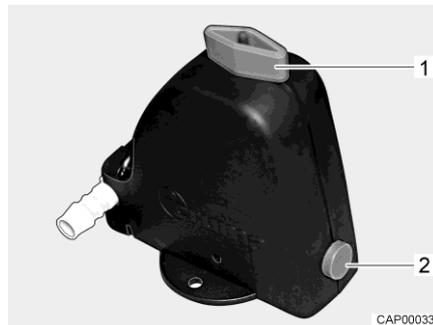
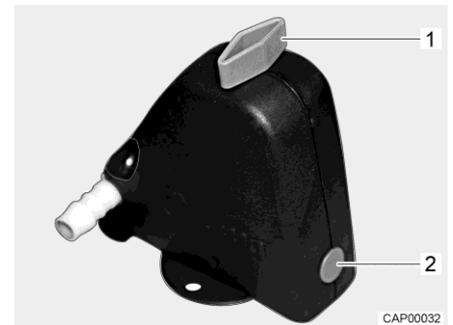

Fig. 121 Safety/drainage valve open
Fig. 122 Safety/drainage valve closed
- Close the safety/drainage valve. Turn the knob (Fig. 121,1) perpendicular to the safety/drainage valve and push the push button (Fig. 121,2) in. The closed safety/drainage valve is shown in Fig. 122. If the temperature is below 6 °C, the safety/drainage valve cannot be closed.